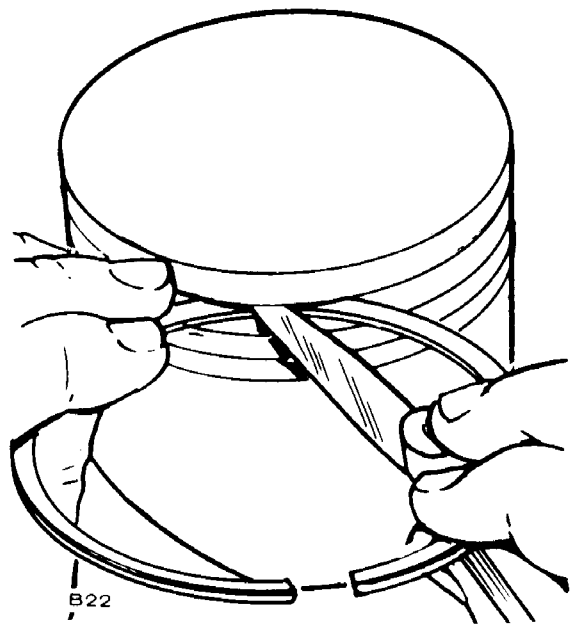

FIGURE 40. CHECKING RING SIDE CLEARANCE
1. Inspect the pistons for fractures at the ring lands, skirts, and pin bosses. Check for wear at the ring lands using a new ring and feeler gauge as shown in Figure 40. Replace the piston when the side clearance of the top compression ring reaches 0.004 inch (0.10 mm).